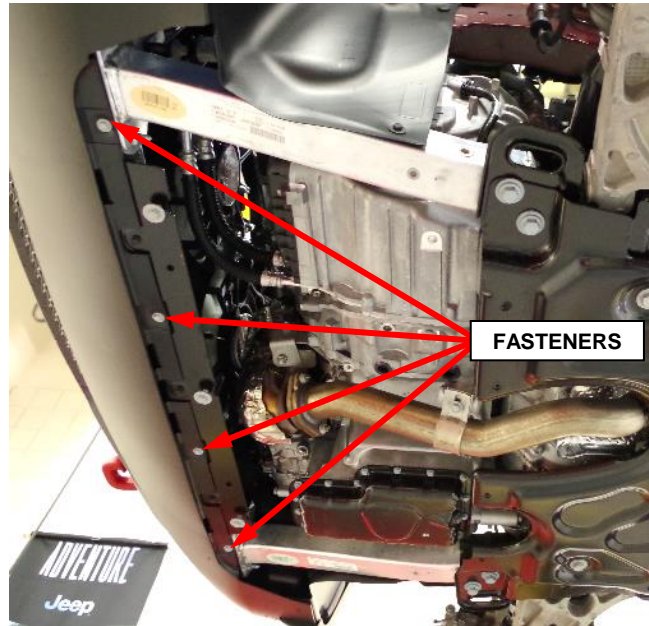

Figure 9 – Lower Fascia Fasteners
14. If applicable, remove the fasteners securing the front fascia lower edge to the vehicle (Figure 9).